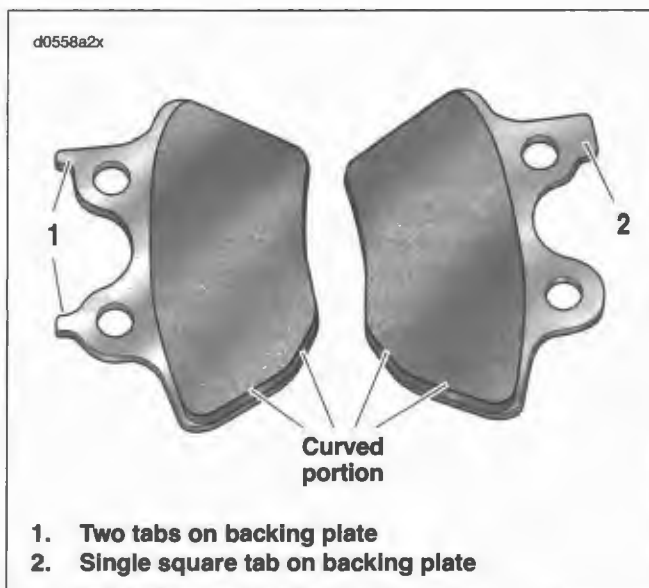

Figure 2-79. Brake Pad Alignment
- See Figure 2-79. The front and rear brake calipers use the same exact brake pad set.
- Install pad with two tabs (1) on the inboard side of the rear caliper.